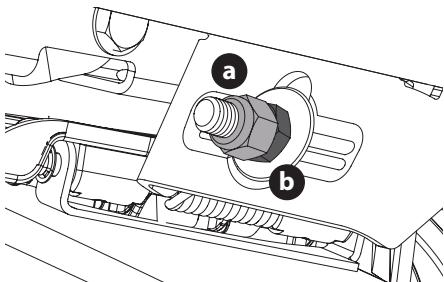

Figure 40
- To raise the front of the deck, remove the end cap, loosen the outer jam nut (a) then tighten (thread inward) the inner nut (b) against the front hanger bracket (Figure 40). When proper adjustment is achieved, re-tighten the outer jam nut (a) to 57 ft-lbs (77 N-m) and replace the end cap.
- To lower the front of the deck, remove the end cap, loosen the outer jam nut (a) then loosen (thread outward) the inner nut (b), away from the front hanger bracket (Figure 40 on page 28). When proper adjustment is achieved, re-tighten the outer jam nut (a) to 57 ft-lbs (77 N-m) and replace the end cap.